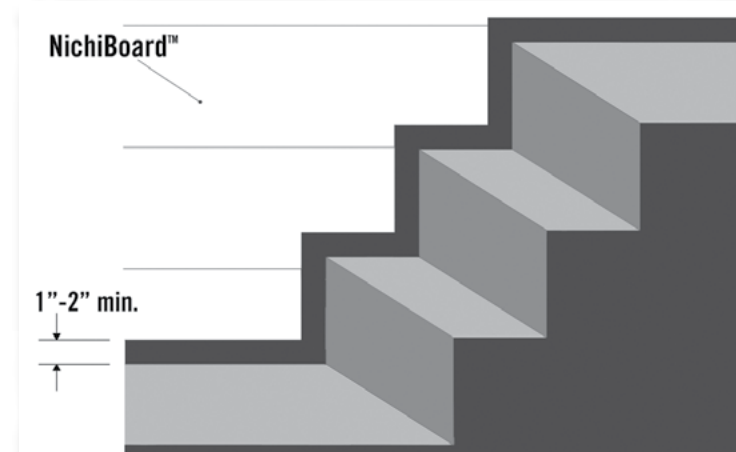

Fig. 1.1
- Maintain a minimum 1" - 2" clearance between NichiProducts and decking, walks, steps, and hard surface driveways. (Fig. 1.1)